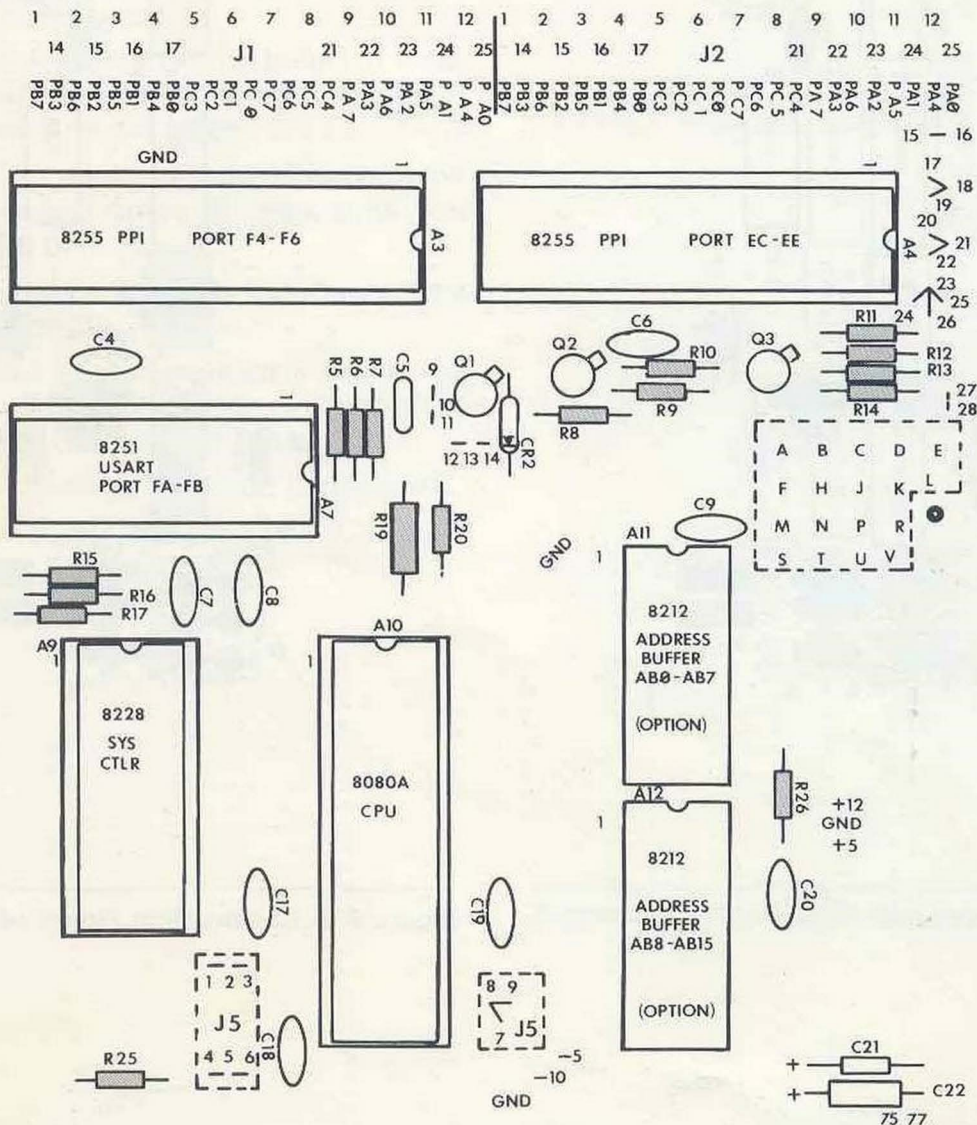

Figure 2-7. Construction Figure #5.
- Referring to Table 2-5, solder resistors R5-R17, R19, R20, R25, and R26 in place. Figure 2-7 shows this area of the board.